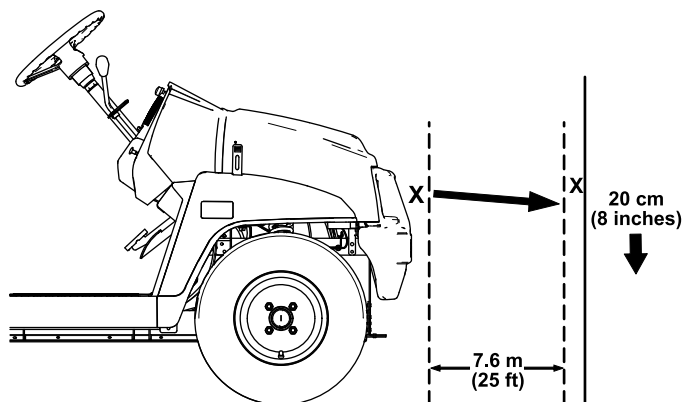

Figure 54
1. Park the machine on a level surface with the headlights approximately 7.6 m (25 ft) from a wall (Figure 54).
The brightest part of the headlight beam should be 20 cm (8 inches) below the mark placed on the wall (Figure 54).